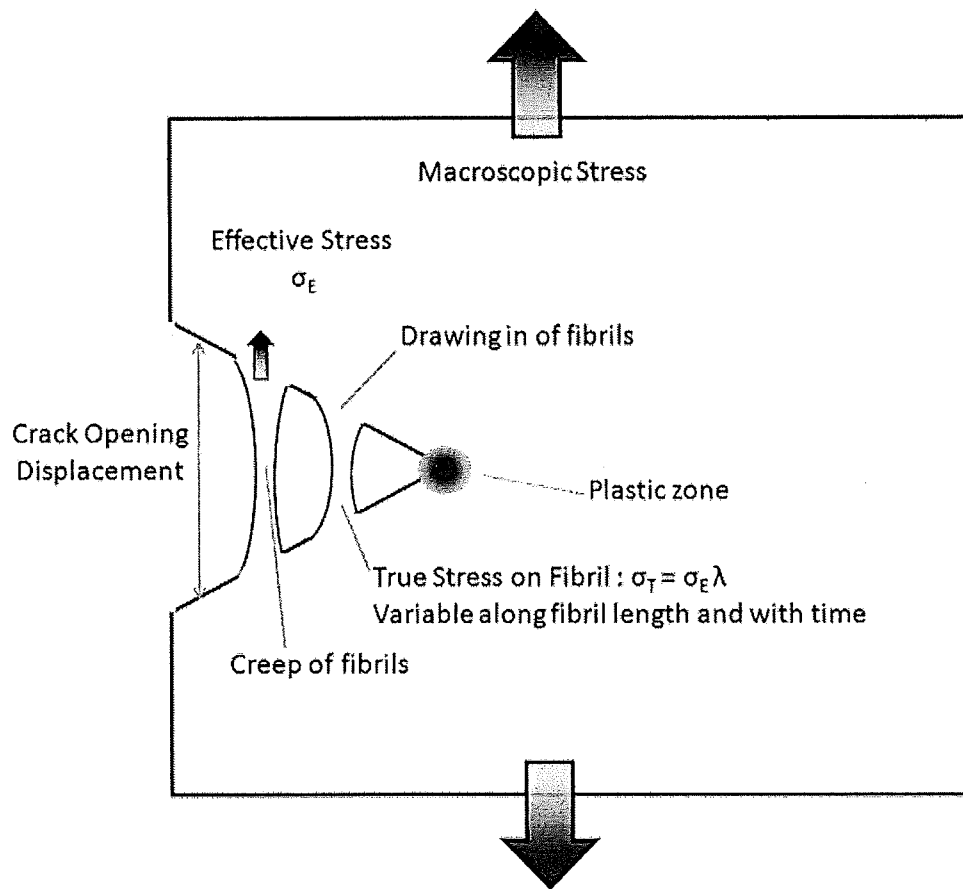

Figure 3 - Craze-crack and craze propagation represented schematically.
- [c] Discuss the macroscopic mechanism of craze-crack and craze propagation as shown in Figure 3.